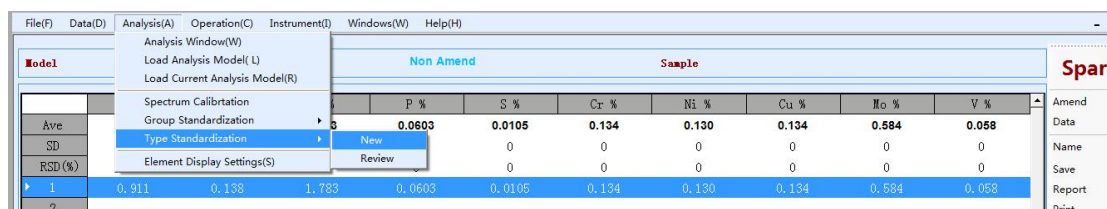

Figure 4-22 Type Standardization
Step 1 Click “Analysis”- “Type Standardization”- “New” in menu bar of the software, as shown in Figure 4-22: